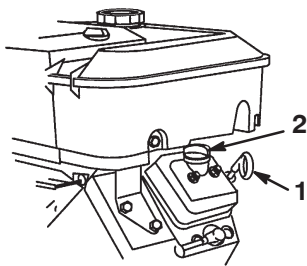

Figure 10
- Remove the dipstick and wipe it with a clean rag (Fig. 10). Insert the dipstick into the tube and make sure it is seated fully. Remove the dipstick and check the oil level.
- If the oil level is low, remove the filler cap from the valve cover (Fig. 10) and pour oil into the opening until the oil level is up to the Full mark on the dipstick; refer to Engine Oil, page 27, for the proper oil type and viscosity. Add the oil slowly and check the level often during this process. **Do not overfill.**